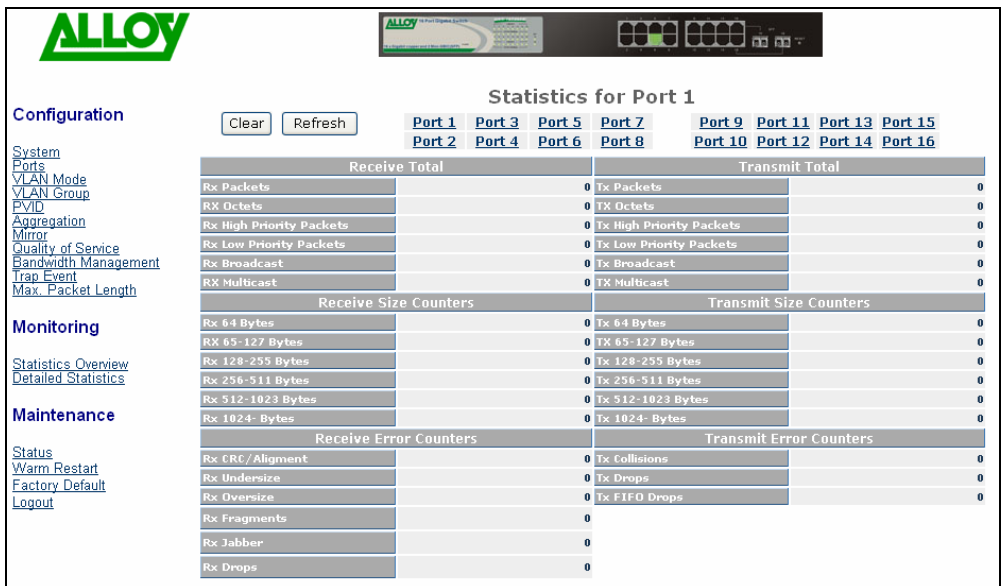

Fig. 3.24
- **Description:** (See Fig. 3.24 below, which uses port 1 as an example)